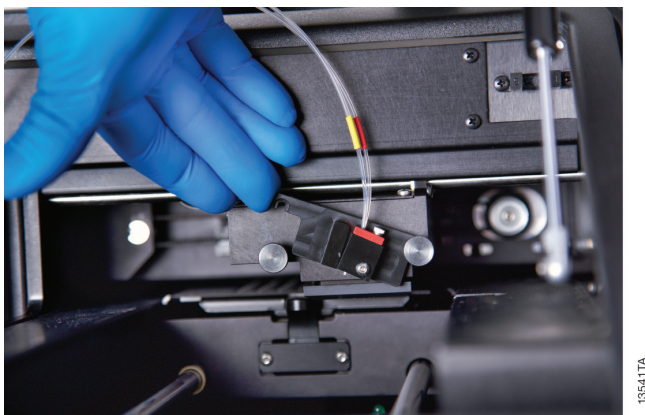

Figure 94. Remove the Injector Tip Holder.
3. Loosen the hand screws and remove the Injector Tip Holder from the Optical Head. Facing the front of the instrument, push upward and then leftward (as viewed from the bottom of the Tip Holder to release the Tip Holder from the Optical Head (Figure 94). Completely remove the Injector Tip Holder to take out the Aperture.
4. Push the Optical Head to the center of the instrument, exposing the black metal shelf on the right side of the instrument (Figure 94).
3. Loosen the hand screws and remove the Injector Tips and Injector Tip Holder from the Optical Head. Facing the front of the instrument, push upward and then leftward (as viewed from the bottom of the Tip Holder to release the Tip Holder from the Optical Head (Figure 94).